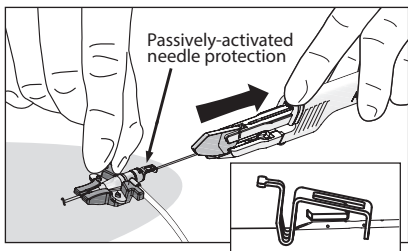

Figure 9
- Visually confirm needle tip is enclosed in the needle protection, once the needle/guidewire moves out of the catheter completely (refer to Figure 9).